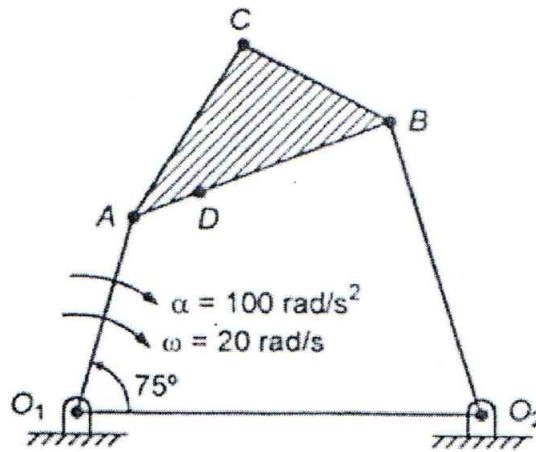

Fig 5b
- b) A four-bar mechanism with the ternary link is shown in Fig 5b. The lengths of various links are given as below: $O_1O_2 = 600$ mm, $O_1A = 300$ mm, $AB = 400$ mm, $O_2B = 450$ mm, $AC = 300$ mm, $BC = 250$ mm, $AD = 100$ mm, and angle AO_1O_2 is 75 degrees. Angular velocity of crank $O_1A = 20$ rad/s, Angular acceleration of crank $O_1A = 100$ rad/s² Determine (i) acceleration of coupler AB, (ii) acceleration of lever O_2B , (iii) acceleration of points C and D, and (iv) angular acceleration of ternary link. 14